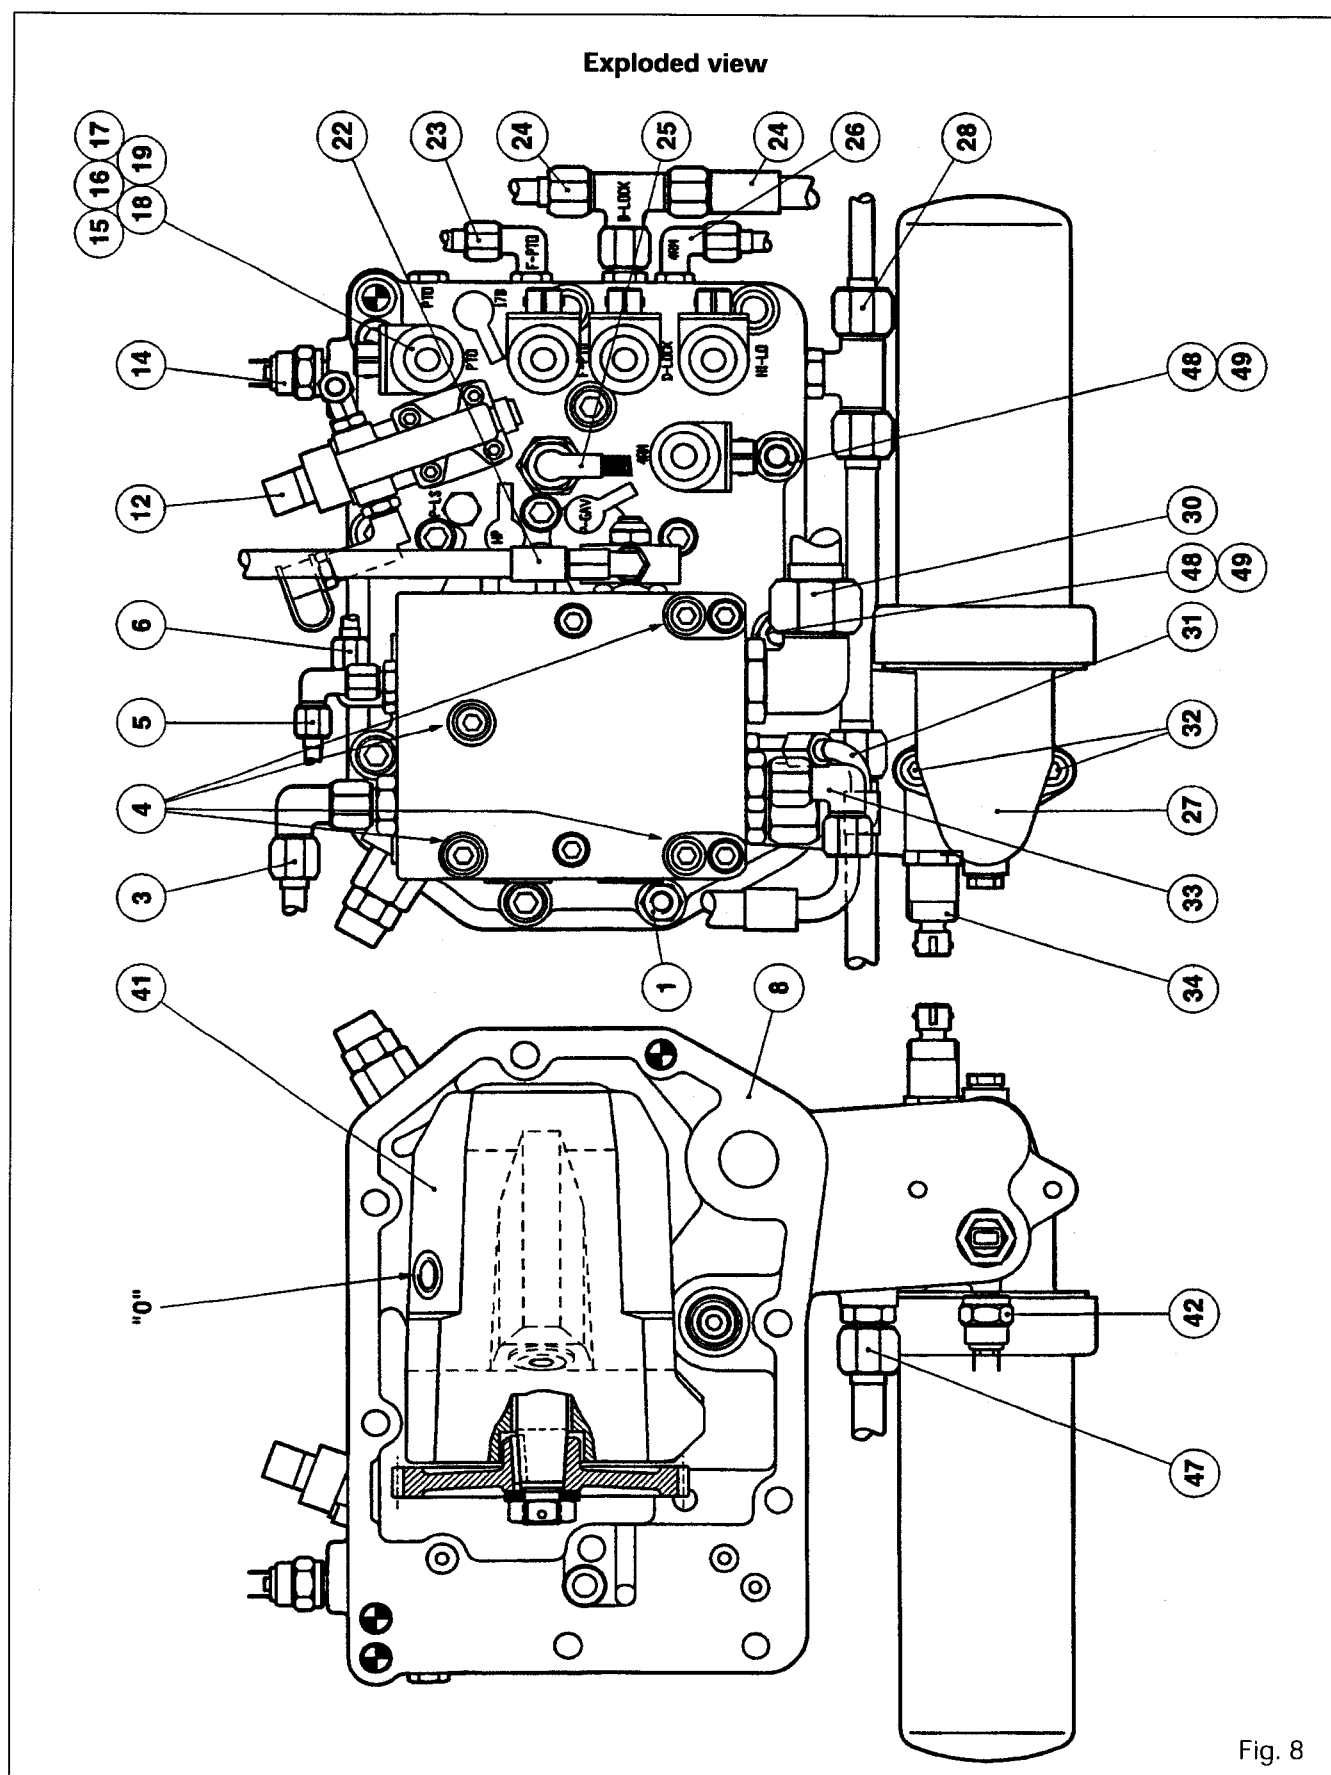
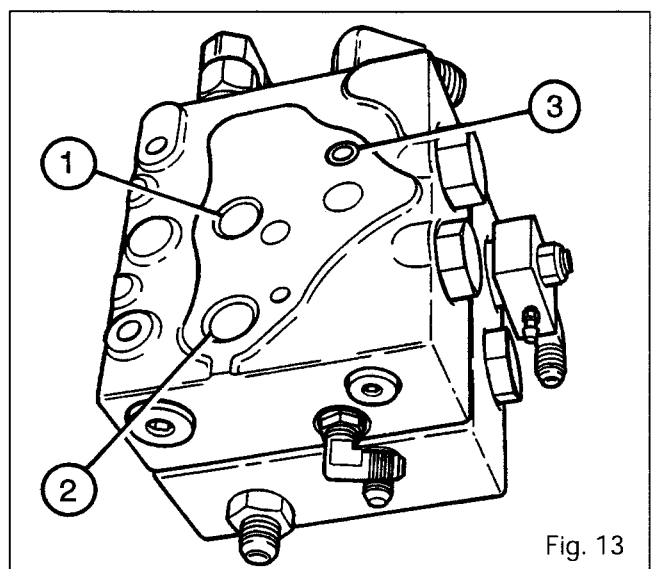

Fig. 8
Fig. 13
Removal (Fig. 8)
13. Fill the pump **(41)** with transmission oil via port "O" (Fig. 8).
16. Replace the O-rings **(1)** to **(3)** (Fig. 13) and reinstall the override unit or the trailer brake unit (if fitted). Smear the bolts **(4)** with Loctite 542 and tighten them to a torque of between 25 and 35 Nm (Fig. 8).
The distribution plate (11) to the rear of the ball established communication between the piston chambers and the pump suction and discharge ports. The ball joints (5) have holes to ensure lubrication between the shoes (7) and the plate (6). The oil is then routed to the housing via port "O" (Fig. 8).